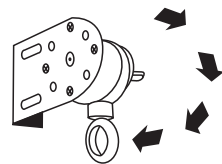

Fig 3
- c. Turn the clutch unit 180 degrees so the wand eyelet can now hang down from the left side (Fig 3).